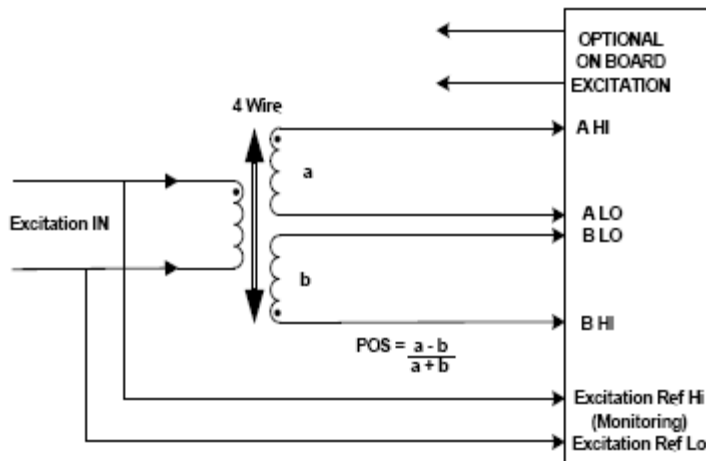

Fig1. LVDT Configuration: 4-Wire Mode
1. Wire-up a LVDT transducer to one of the channels (Ch.1 for this app. note) to the LVDT module as shown in Fig1.
1. Wire-up the LVDT module as shown in Fig1.
- 2-a. Connect LVDT transducer to the LVDT module channel 1 as shown in Fig1.